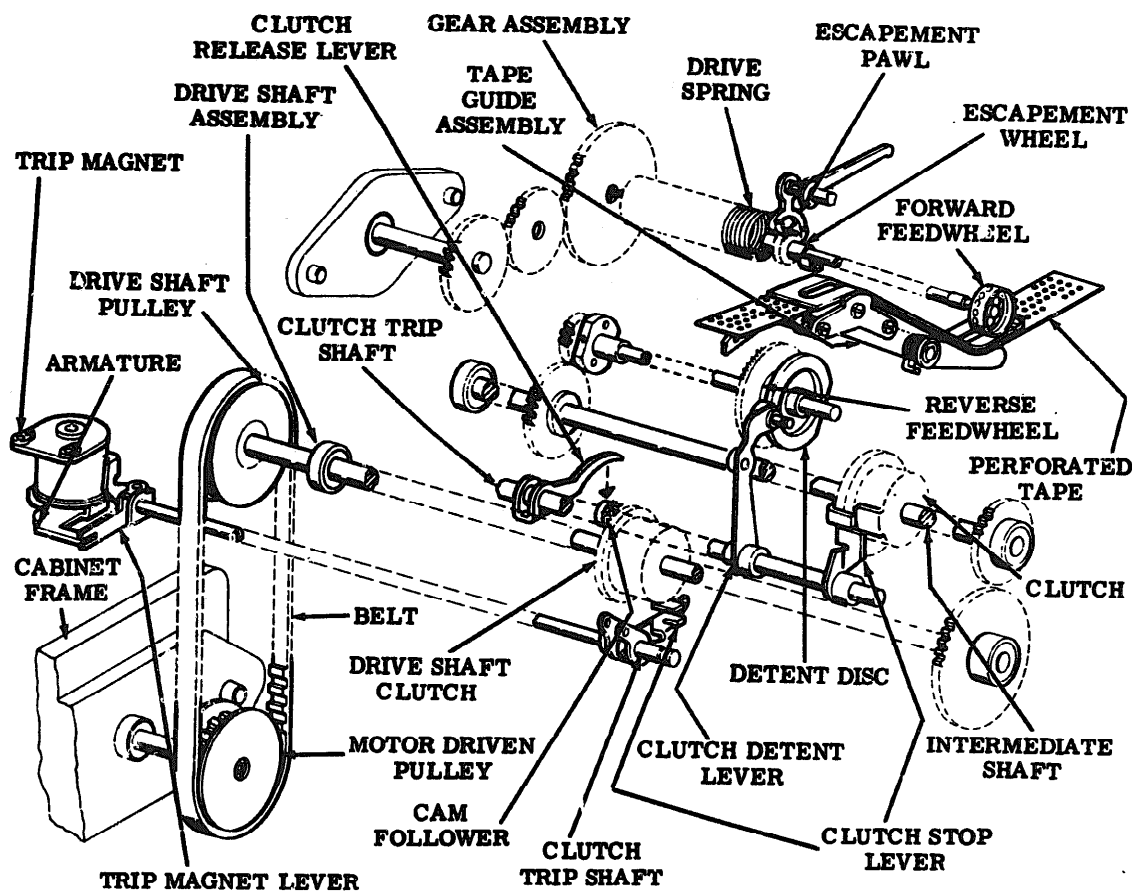

Figure 20 - Backup Mechanism (Left *Front* Oblique View)
Forward Mode (Figure 20)
Reverse Mode (Figure 20)
3.19 Engagement of the drive clutch (Figure 20) causes the cam assembly to rotate with the shaft. At the same time, the tape guide cam follower arm starts to rotate counterclockwise. A post on the arm allows the tape lid switch lever to be rotated clockwise by its spring. The lever operates the tape lid switch, which is wired for normally closed operation.
3.20 The tape guide cam follower arm, as it rotates, causes the center of the tape guide assembly to move down and toward the left. The tape guide torsion spring (Figure 20) tends to bias the assembly counterclockwise. As the tape guide assembly rotates counterclockwise, it moves away from the right eccentric stud and continues to rotate until the left end of the assembly comes to rest on the left
3.21 As the tape guide cam assembly continues its rotation, the cam assembly roller strikes the clutch release lever causing the trip shaft to rotate counterclockwise. The rotation of the clutch stop lever releases the intermediate shaft clutch allowing it to engage. The drum and gear assembly begins to rotate counterclockwise causing the reverse feed wheel assembly to rotate clockwise. The reverse feed wheel assembly rotates twice to each rotation of the intermediate shaft. As the cutout on the feed wheel detent disc is completing the first rotation, the cam of the drum and gear assembly holds the detent lever away from the disc until the detent cutout has passed (Figure 20). When the detent cutout approaches the second complete revolution, the detent lever is no longer held away. The spring clutch of the intermediate shaft is stopped by its respective stop arm on the trip shaft, and the detent lever roller drops into the cutout on the detent disc. Because there are 40 teeth on the reverse feed wheel and its rotation is twice that of the intermediate shaft, 80 characters in the tape will be fed backwards.